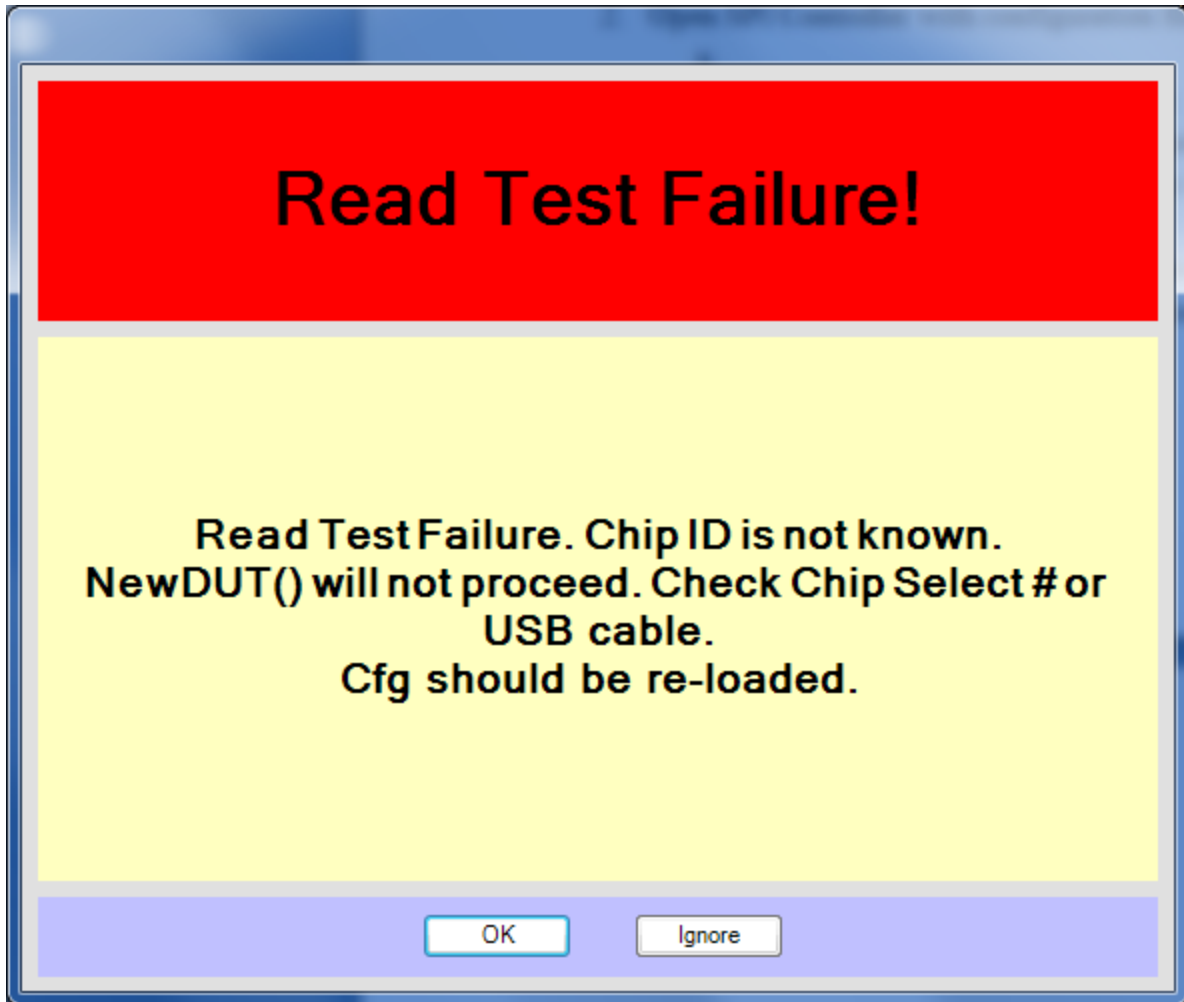

Figure 5. SPI Controller Read Test Failure Message Window
- a. Press Ignore in the Reset Test Failure Message Window (Figure 5)